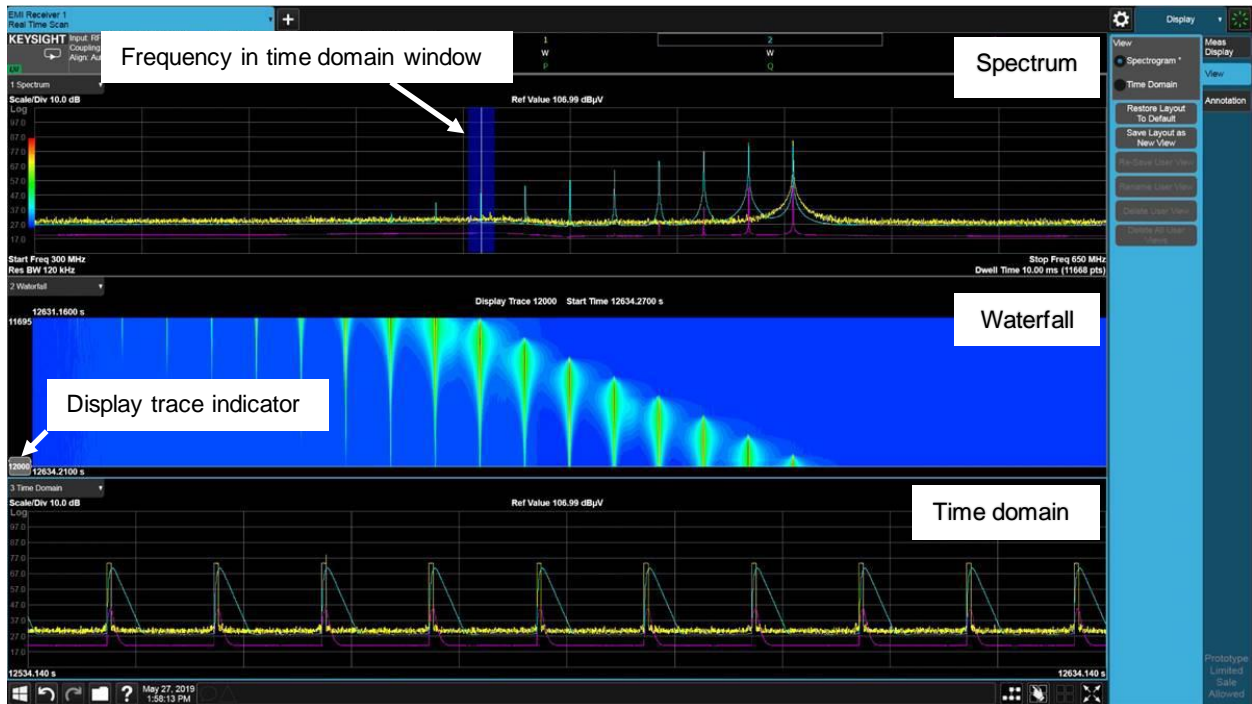

Figure 5. Real-time scan measurement view
RTSC measurement provides real-time results of the spectrum at the receiver input by limiting the measurement to a single FFT acquisition. It sets the local oscillator (LO) to a fixed frequency, captures data, and performs FFTs simultaneously. The process provides gapless and historical data in both time and frequency domain for the respective frequency ranges. See Figure 5.